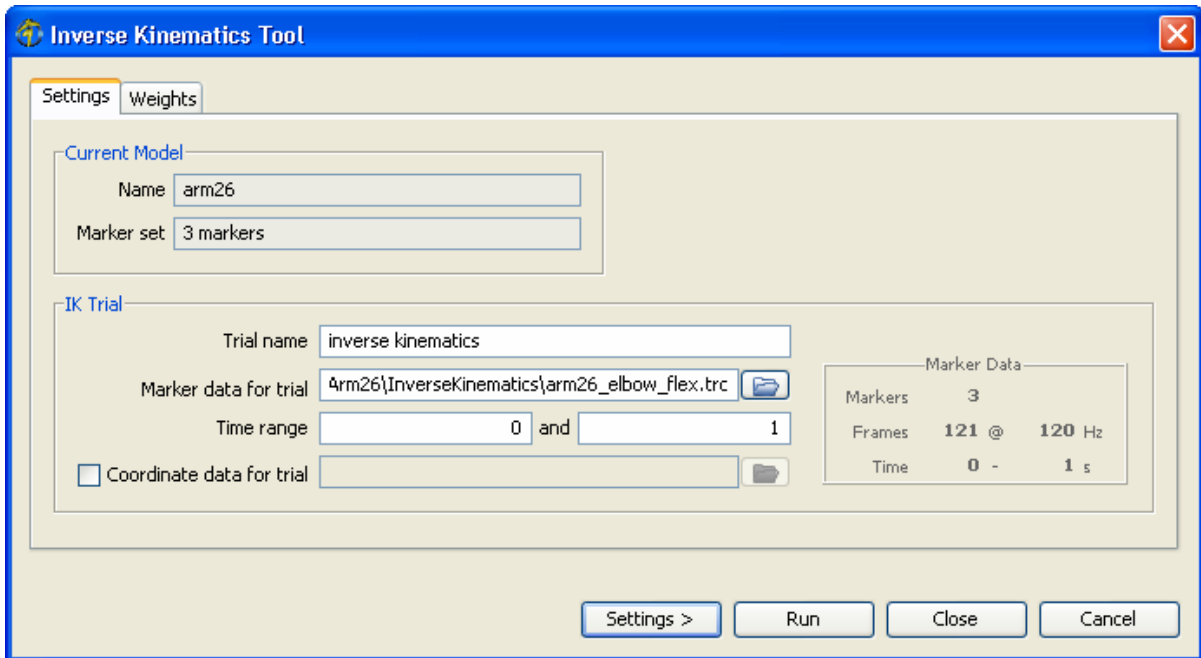

Figure 3-2: Inverse Kinematics Tool Dialog
To launch the Inverse Kinematics Tool, select **Inverse Kinematics...** from the **Tools** menu. The **Inverse Kinematics Tool** dialog (Figure 3-2) like all other OpenSim tools, operates on the *Current Model* open and selected in OpenSim (e.g., *arm26*). Inverse kinematics requires that a marker set is associated with the model and the number of markers is reported (e.g., *3 markers*). The **IK Trial** section specifies the experimental marker data that the Inverse Kinematics Tool will match with the current model. A *Trial name* can be associated with the trial to uniquely identify the resultant motion. The *Marker data for trial* field must contain the path to the marker data (in *.trc* format) and OpenSim will report the information it recognizes from the file such as the number of markers, the number of frames and sampling frequency as well as the start and end times of the data set in the **Marker Data** pane. Any subset of the time range can be specified for performing
1. **Open Inverse Kinematics Tool.** To open the tool (Figure 3-2), select **Inverse Kinematics...** from the **Tools** menu.